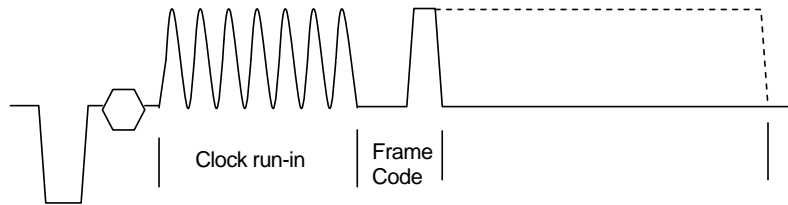

Figure 5 Typical CC/EDS scan line waveform
Closed Caption (CC) vertical blanking interval scan lines are on the odd field NTSC line 21. Extended Data Services (EDS) scan lines are on the even field NTSC line. A Closed Caption (CC) scan line on an NTSC-based system is made of 25 bit periods at a 0.503MHz rate. The data is an analog signal beginning with a packet header. It contains a Clock Synchronization Code consisting of 14 bits of double-frequency run-in clock at 1.006 MHz, a 2-bit framing code. The data of 16 bits/2 bytes follows the packet header. Each of these 2 bytes is a 7 bit + odd parity ASCII character which represents text or control characters for positioning or display control. For the purposes of CC or EDS, only the Y component of the video signal is used. Therefore, the input composite video has to go through the Y/C separation to extract Y component for further decoding. The TW8817 can be programmed to decode CC or EDS data by setting register 0x1B. Since the CC and EDS are independent, there could be one or both in a particular frame. A typical waveform is shown in Figure 5.